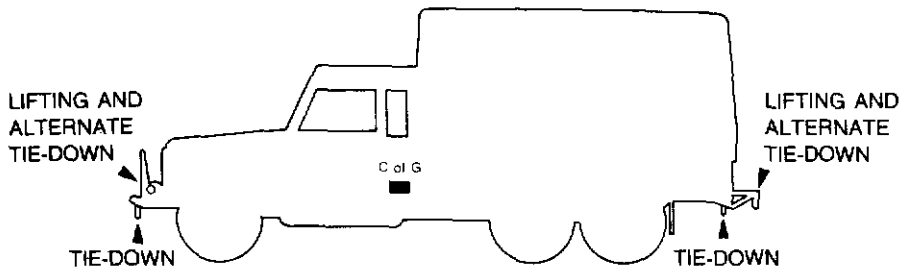

Figure 1-3 Slinging and tie-down points
32. Slinging and tie-down points are illustrated in Fig 1-3.